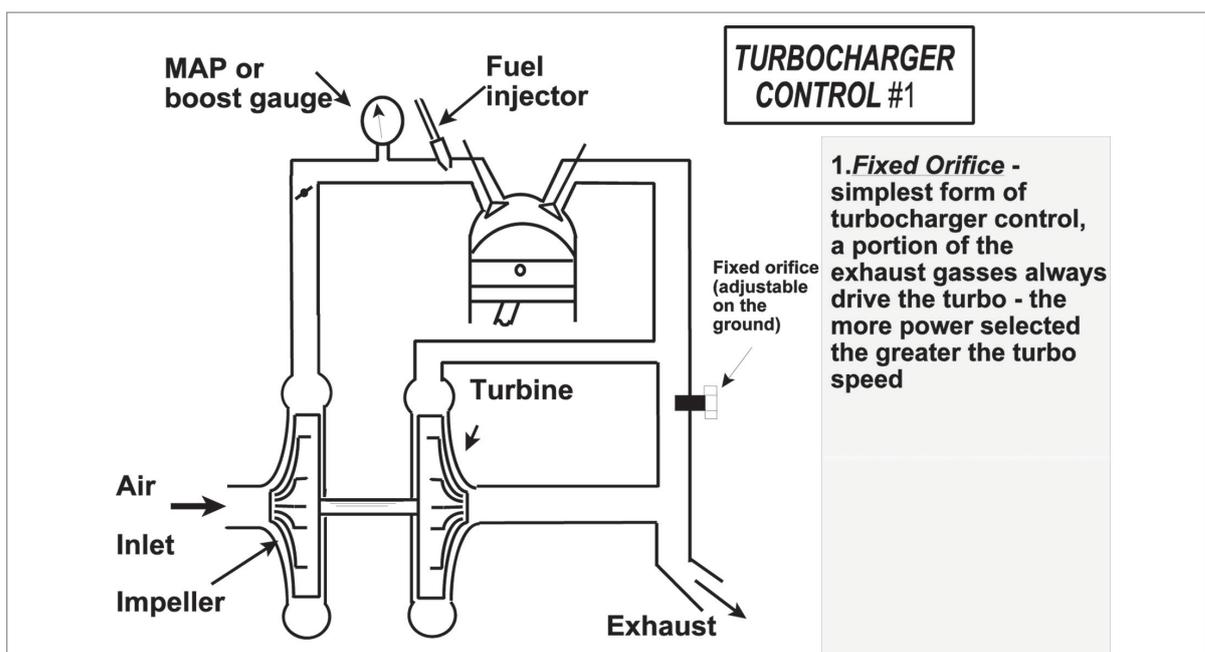

Figure 11.7
- a) The simplest form of control is to have a **fixed orifice** exhaust bypass (*Figure 11.7*) so that a proportion of the exhaust gases will always drive the turbo, and the manifold pressure is controlled strictly by the throttle valve, remembering that as the throttle is opened to gain more **MAP** or **Boost** the turbine speed will increase and the throttle input pressure and **MAP** will also respond to the chain reaction, rapid movement of the throttle **will** probably cause overboosting with this type of system.